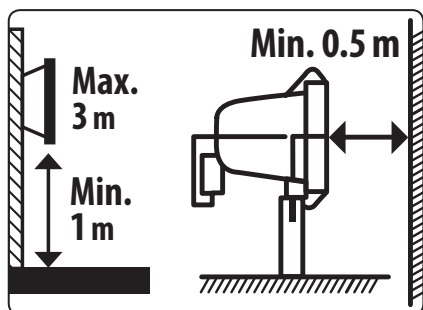
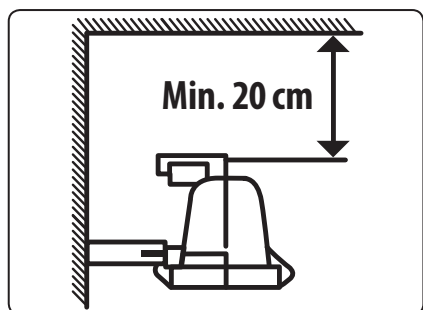

Fig. 6
Fig. 7
The direct distance of the floodlights from the illuminated object should be at least 0.5 m, see fig.6.
- If necessary, the floodlights may be mounted on a wall. Mount the floodlight at a height of 1-3 m above the ground (fig. 6). The direct distance of the floodlights from the illuminated object should be at least 0.5 m. When the floodlight is mounted in a corner then it must be at least 20 cm away from the ceiling (Fig. 7).